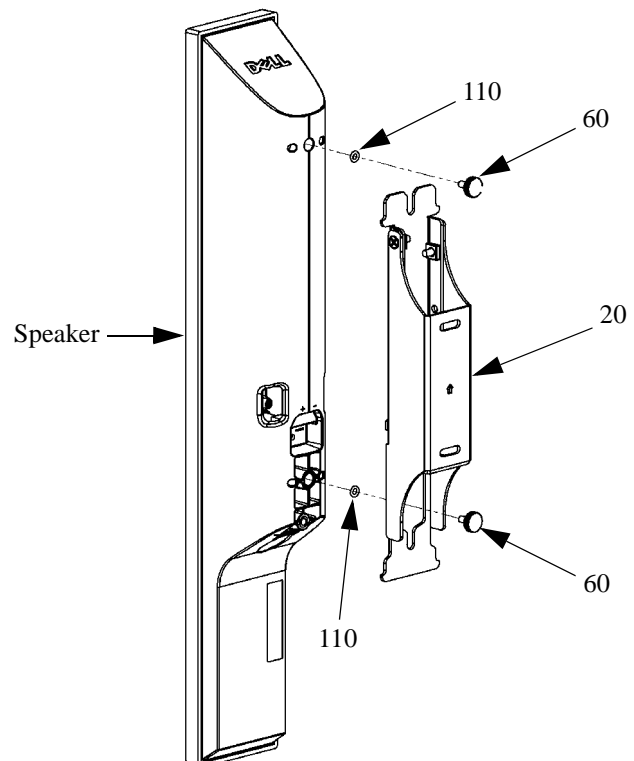

Figure 14: Install Speaker Using Two Thumb Screws
1. Install two thumb screws (50) and two O-rings (110) into the threaded holes on the speaker. Do not tighten the thumb screws at this point. (see Figure 14).